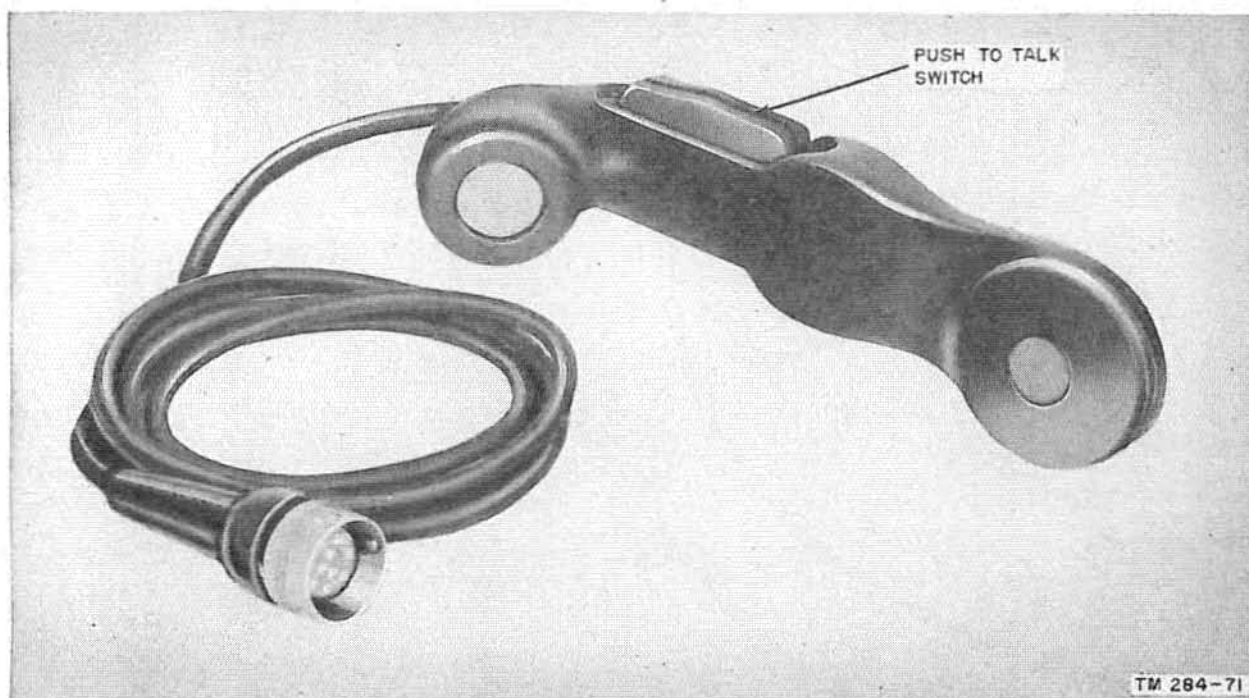

Figure 16. Handset H-53/PT.
e. HANDSET H-33/PT. Handset H-33/PT (fig. 16) is a combination microphone and receiver with a push-to-talk switch and connecting cord. Microphone impedance is 40 ohms; receiver impedance is 300 ohms. The push-to-talk switch provided consists of two electrically independent SPST switches. The cord is 5 feet long and is terminated in a 10-pin audio connector which will mate with the audio connectors on the receiver-transmitters, interphone amplifier, and control units.